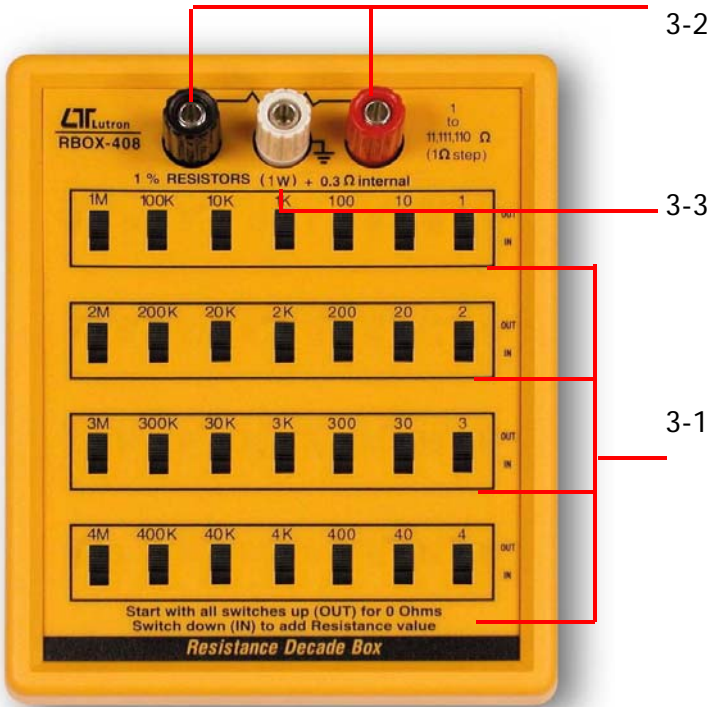

Fig. 1
- 2) Switch down (IN) to add Resistance value.
- 3) The " Ground Terminal " (3-3, Fig. 1) is connected to the metal enclosure of all switches. For some special application may connect the " Ground Terminal " (3-3, Fig. 1) to the external equipment to prevent other environment interference.
- * **The Wattage of the " Output Resistor " is 1 W. Do not add the Wattage more than 1 W to the " Resistance Output Terminals " (3-2, Fig. 1)**